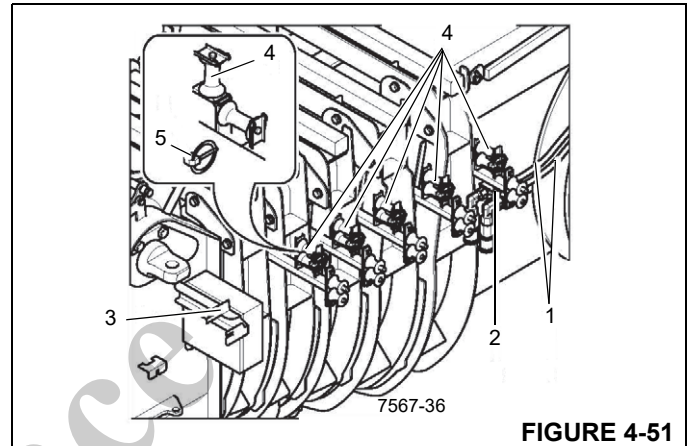

FIGURE 4-51
1. Loosen the hinged pins (5) (Figure 4-51) and fold up the guide sheaves (4).
2. Detach the strain relief from the holder (3) and attach it to the holder (2).
3. Fold down the guide sheaves (4) and secure them with the hinged pins (5).